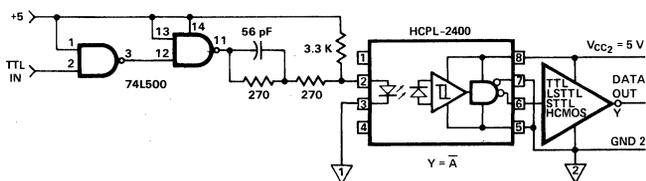

Figure 13. Recommended 20 MBd HCPL-2400/11 Interface Circuit
- This specification simulates the worst case operating conditions of the HCPL-2400/11 over the recommended operating temperature and VCC range with the suggested applications circuit of Figure 13.
A recommended LED drive circuit is shown in Figure 13. This circuit utilizes several techniques to minimize the total pulse-width distortion at the output of the optocoupler. By using two inverting TTL gates connected in series, the inherent pulse-width distortion of each gate cancels the distortion of the other gate. For best results, the two series-connected gates should be from the same package.
The circuit in Figure 13 also uses techniques known as prebias and peaking to enhance the performance of the optocoupler LED. Prebias is a small forward voltage applied to the LED when the LED is off. This small prebias voltage partially charges the junction capacitance of the LED, allowing the LED to turn on more quickly. The speed of the LED is further increased by applying momentary current peaks to the LED during the turn-on and turn-off transitions of the drive current. These peak currents help